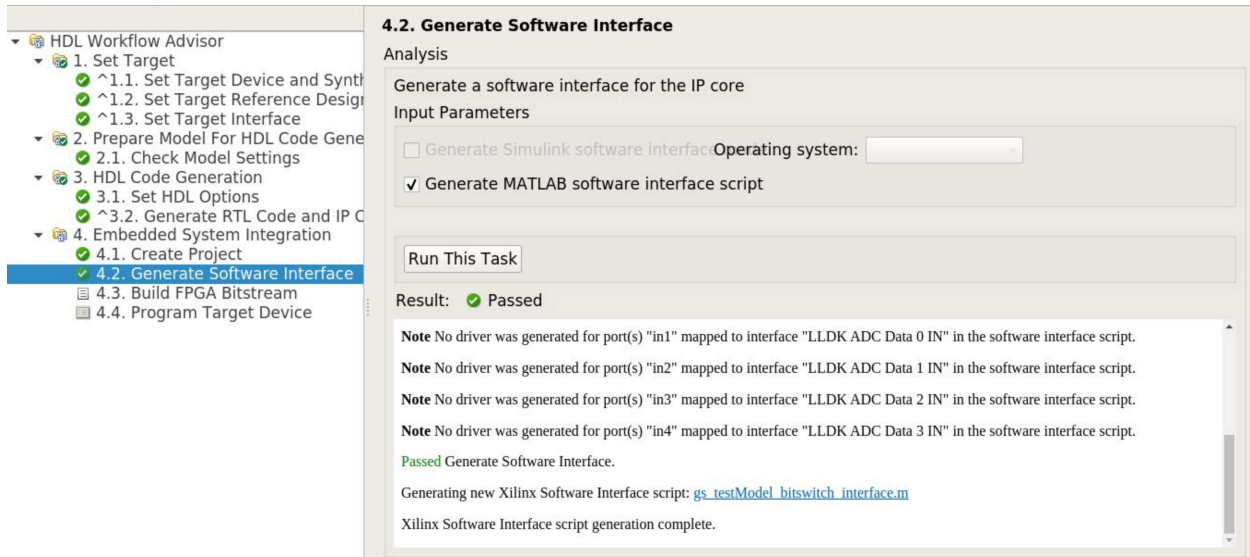

Figure 16. Generate Software Interface
3.2 Run the task in Figure 16.